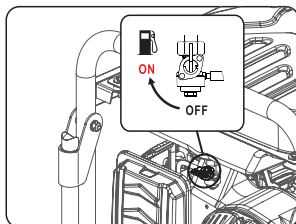

Fig 11
- Turn fuel valve to the ON position. (See fig 11)